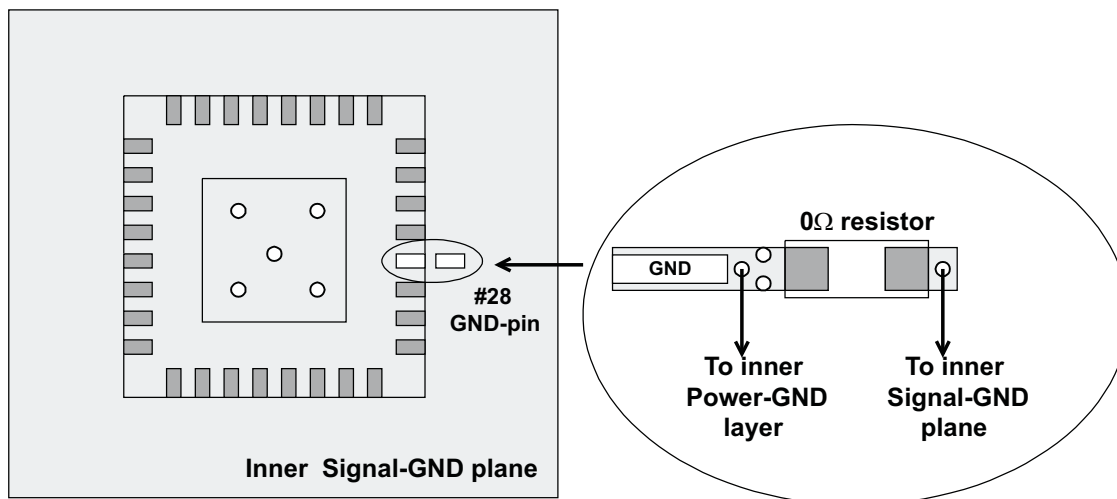

Figure 53. GND Layout Example
- Use signal GND for VREF2 and VREG3 capacitors, RF and VFB resistors, and the other sensitive analog components. Placing a signal GND plane (underneath the IC, and fully covered peripheral components) on the internal layer for shielding purpose is recommended. (See Figure 53)
- Use power GND for VREG5, VIN and V_{OUT} capacitors and low-side MOSFETs. Power GND and signal GND should be connected near the device GND terminal. (See Figure 53)